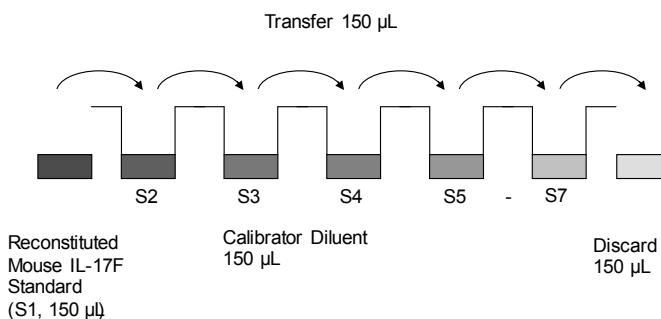

Fig. 7 External standard dilution
- Repeat serial dilutions 4 more times thus creating the points of the standard curve (see Figure 7).